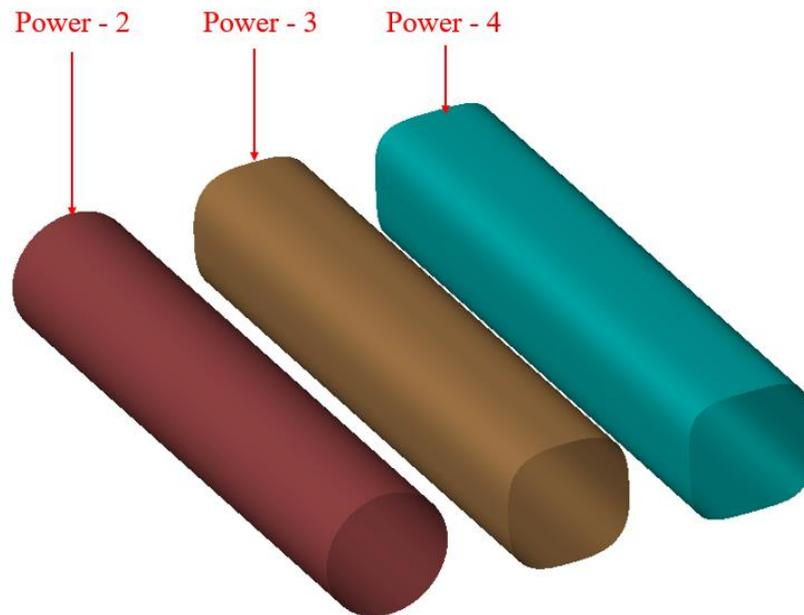

Figure 3.7: Cylinder with different power
**NOTE:** The “power” option defines the relation that provides the shape of the built-in surface. An ellipsoid (includes cylinder, circle, ellipse) is defined by a second order function which renders an oval shape. A super-ellipsoid is defined by a higher order function. For a power equal to 2, according to the ellipse equation, a circle would be formed, if power is more than 2, a super-ellipsoid is formed which looks more like a rectangular prism as shown in Figure 3.7.